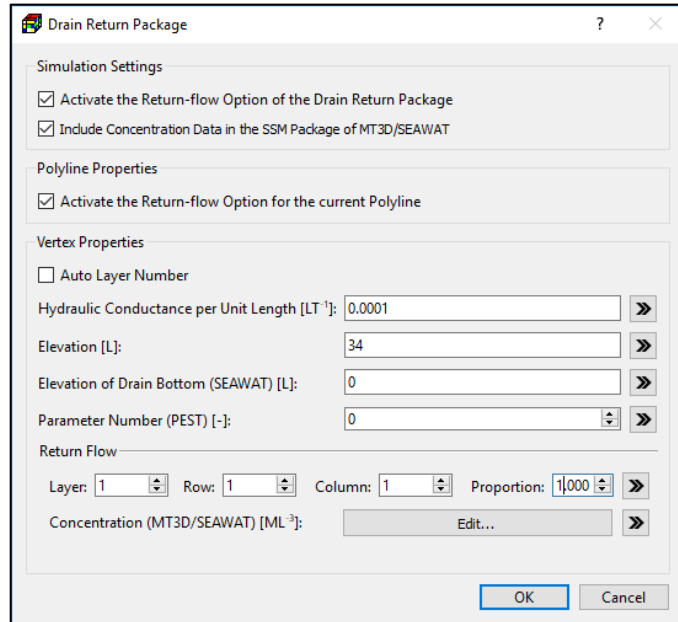

Figure 49. The Drain Return Package dialog box for specifying vertex/polyline properties
3. **Polyline input method:** Figure 49 shows the dialog box that is used to specify vertex/polyline properties.